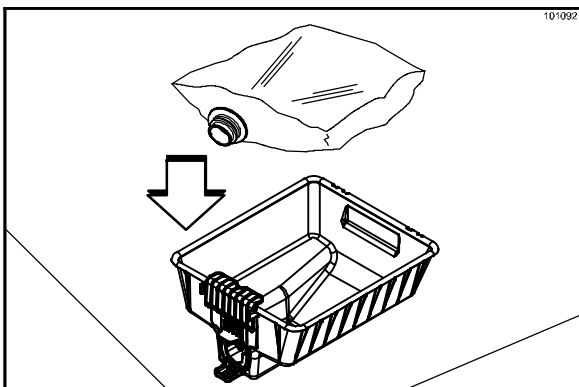

Figure 109
59. Place the bag of product into the base of the product bin with the **spout facing down**. (See Figure 109.)